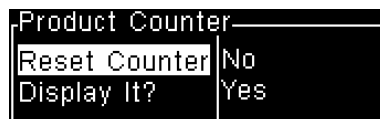

Figure 6-5: Product Counter Dialog Box
- 3 Press Enter to open the Product Counter dialog box (Figure 6-5).